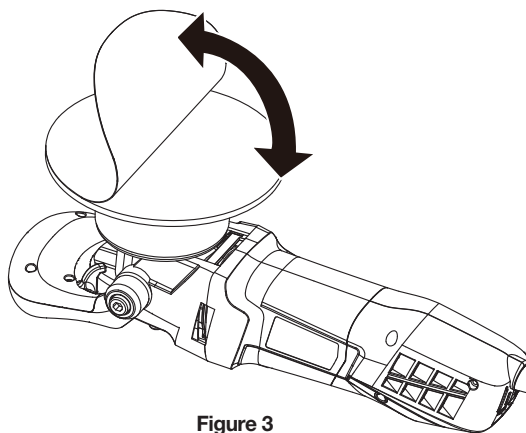

Figure 3
2. FITTING THE SANDING PAPER (NOT SUPPLIED) OR FOAM DISC (SEE FIG. 3, 4)